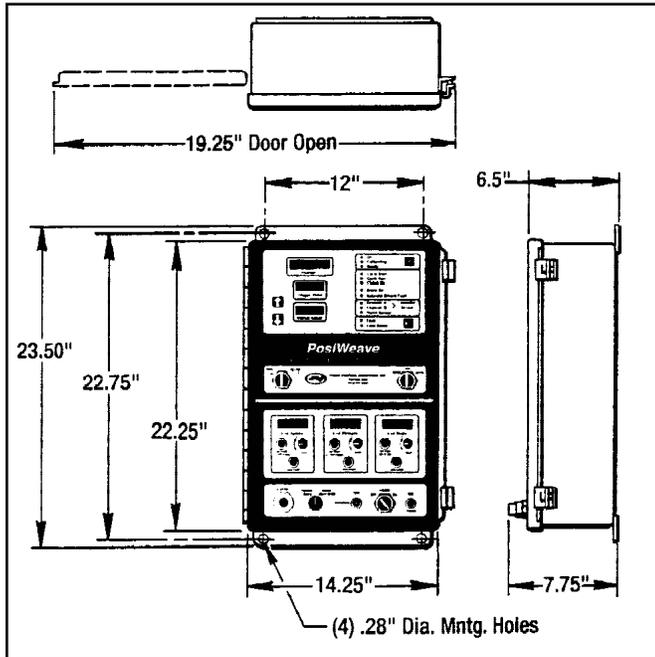

Figure 2.4 - *PosiWeave* Control Box Mounting
(See Figure 2.4)
Mount the *PosiWeave* Control Box in a position accessible to the machine operator and within reach of the (2) yellow Brad-Harrison cables. Mounting should be on a solid structure away from heat and vibration using the mounting holes provided. (See Figure 2-4 for hole size and location.)